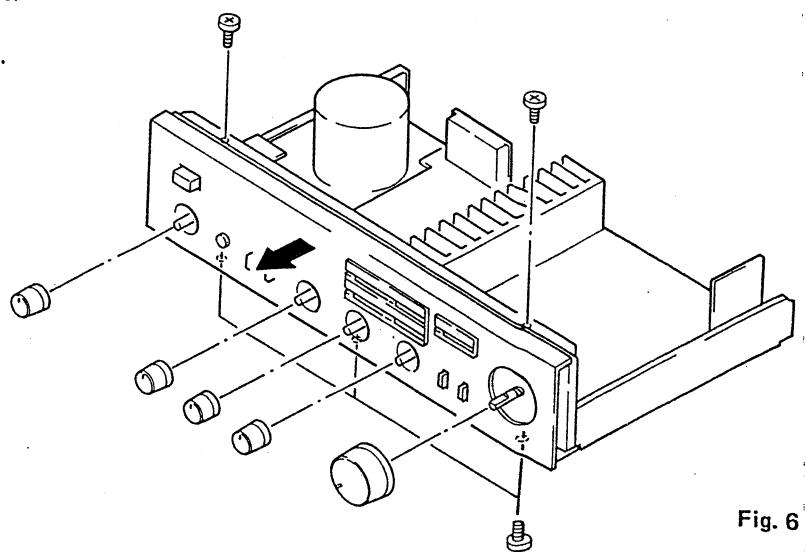

Fig. 6
3. How to remove the front panel (Fig. 6)